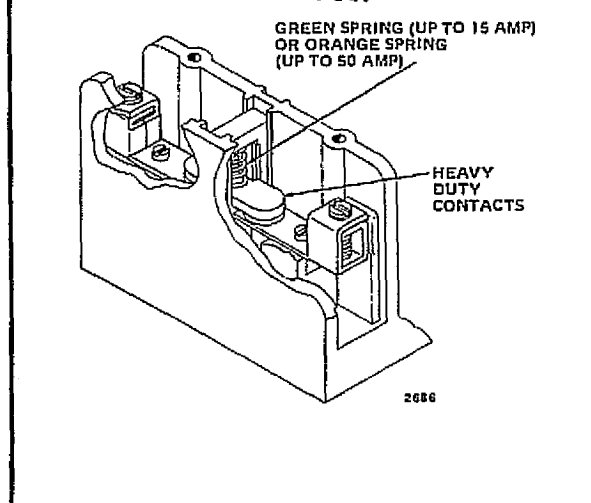

FIG. 13—INSTALLING HEAVY DUTY SHORTING BAR.
2. Insert new heavy duty bar (from bag assembly) over stationary contacts (Fig. 13).
3. Compress orange spring (from bag assembly) and insert between bar and plastic base (Fig. 13). The orange spring must be used to eliminate contact chatter under certain load conditions. Make certain spring is firmly positioned.